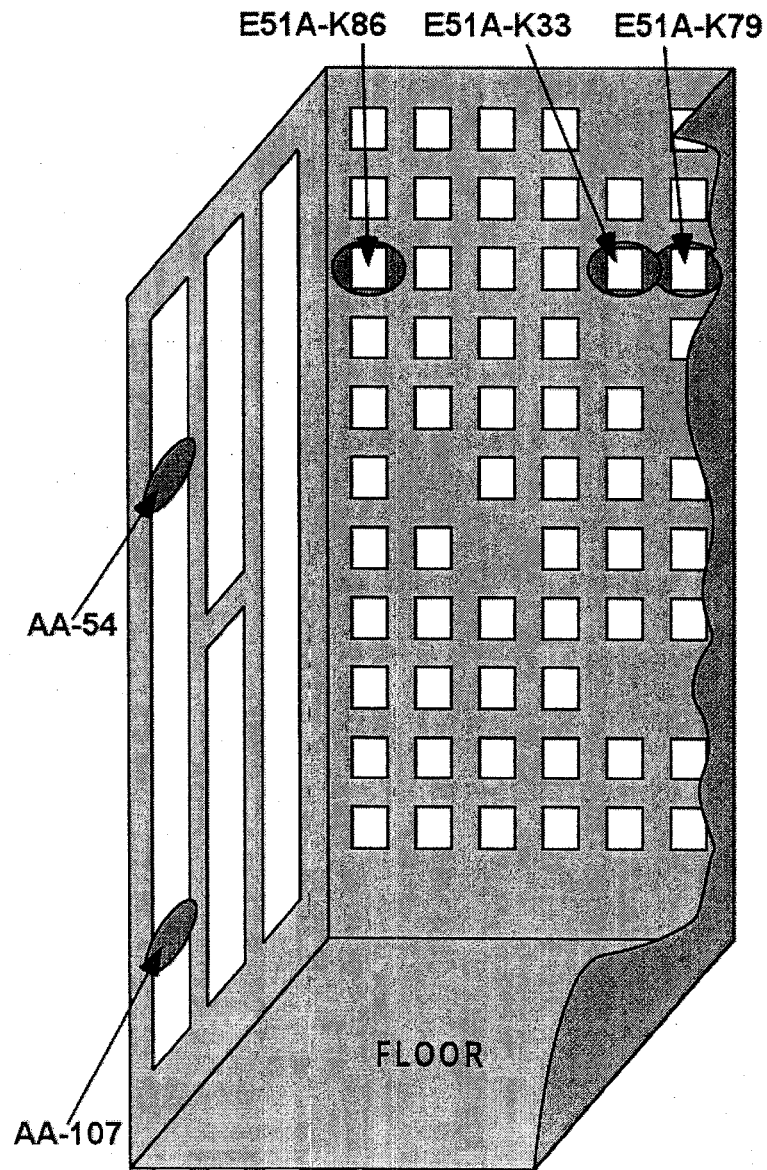

FIGURE 18-5
- Ⓣ 4.8.2 Remove EOP Jumper #7 from terminal points AA-54 AND AA-107 in 2CEC\*PNL618 Bay C (Figure 18-5)..... ( )
- 4.8.3 Install relay E51A-K33 in 2CEC\*PNL618 Bay C (Figure 18-5)..... ( )
- E51A-K79 (Figure 18-5), (2CEC\*PNL618 Bay C) ..... ( )
- E51A-K86 (Figure 18-5), (2CEC\*PNL618 Bay C) ..... ( )